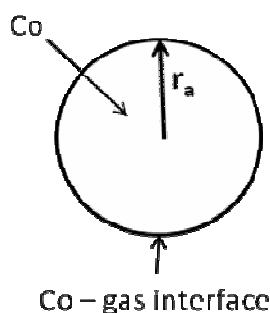

Fig. 1
Catalyst (e.g. cobalt) is often used in the form of solid nanoparticles that have a spherical structure (fig.1). The reduction in size of the catalyst increases catalytic activity significantly. The unwanted side-reaction however involves the oxidation of the catalyst:
- 2.2** Calculate the equilibrium constant for reaction (1) when the cobalt catalyst is dispersed in the form of spherical particles (Fig. 1) of radius:
- (b) spherical nanoparticles with $r_a = 1$ nm (Fig. 1).